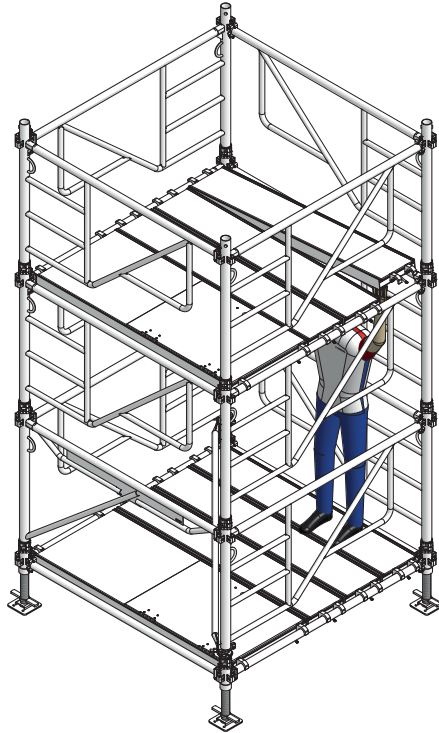

Fig. 12.1
17. Remove the from level 1 and install them on level 2 (Fig.12.1).